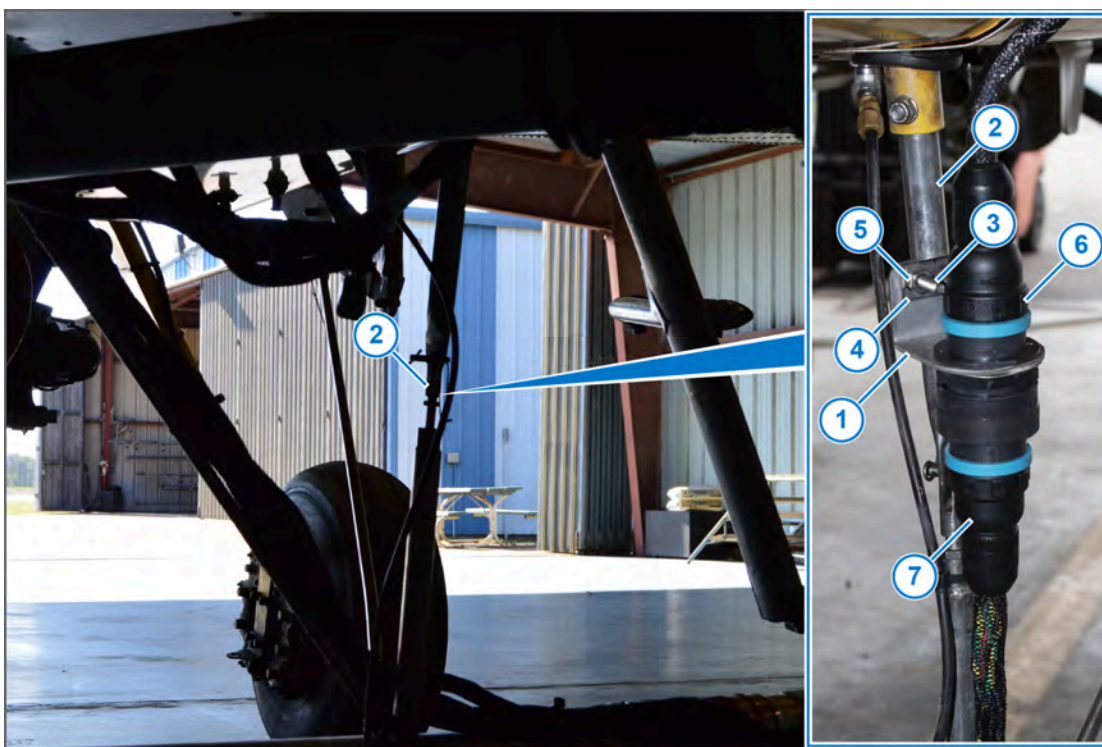

Figure 33: Bracket Installation
2. Install the bracket (Figure 33, Item 1) to the center boom support (Figure 33, Item 2) on each side of the aircraft using the U-bolt (Figure 33, Item 3), mounting plate (Figure 33, Item 4), and nuts (Figure 33, Item 5).
See Figure 33
3. Remove the plastic nut and washer from the *boom control extension harness* 31-pin connector (Figure 33, Item 6).
6. Mount the *boom control extension harness* 31-pin connector (Figure 33, Item 6) for each boom to the bracket.
7. Connect the *boom control harness* (Figure 33, Item 7) to the *boom control extension harness*.